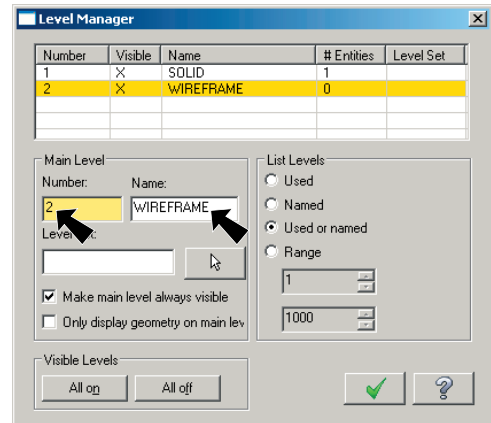

Fig. 12
- Step 3. Press **Shift-Tab** key (hold down the Shift key and press Tab key) to move back to the Number Field and key-in **2**, Fig. 12.
- Step 4. Press Tab key to move to the Name Field and key-in **WIREFRAME**, Fig. 12.